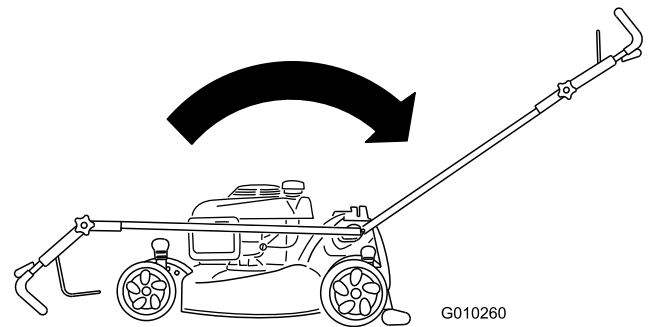

Figure 56
2. Move the handle to the upright position (Figure 56).